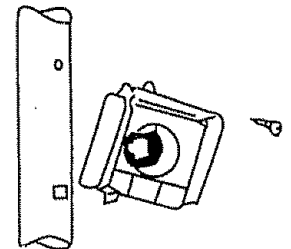

FIG. 5
3. Attach switch box to rear of upper handle tube. Place switch box tab (no hole) into rectangular hole (Fig. 5). Position box against handle tube. Fasten using the small screw provided in the hardware package. **DO NOT OVERTIGHTEN.**